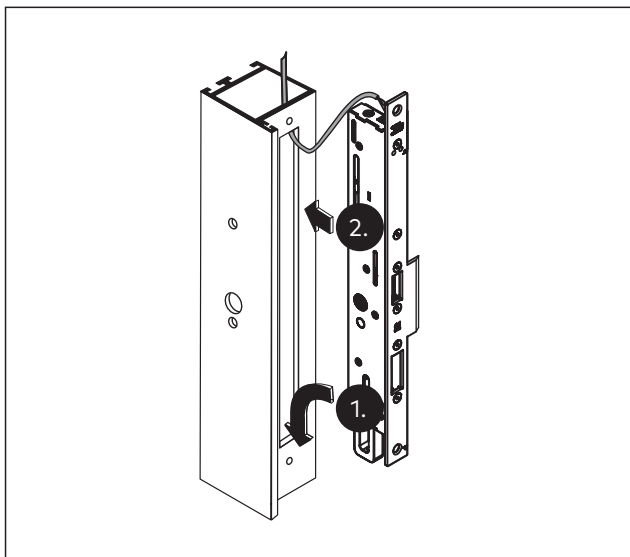

Fig. 33 Insert lock
4. Insert the lock into the door leaf recess (Abb. 33).